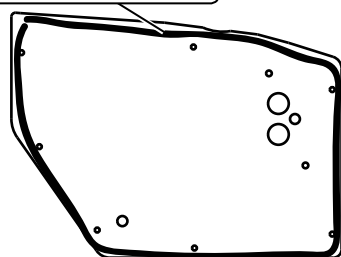

Figure 1
1. Install (2) large grommets into the openings on the firewall cover (See Photo 1, below). **NOTE: Verify correct side of grommet is installed as shown in Photo 1, below.**
2. Install (5) 1/4-20 x 3/4" bolts and (5) 3/16" push-on rings onto the firewall cover as shown in Photos 2 and 3, below.
3. Apply a bead of silicone to the mating surface of the firewall cover (See Figure 1, below).
4. Install the firewall cover from the engine compartment (See Photo 4, below), and secure it from inside the passenger compartment using (5) 1/4" USS flat washers and (5) 1/4-20 nuts with star washers (See Photo 5, below). **NOTE: Ensure the mounting holes are aligned before tightening the mounting hardware.**